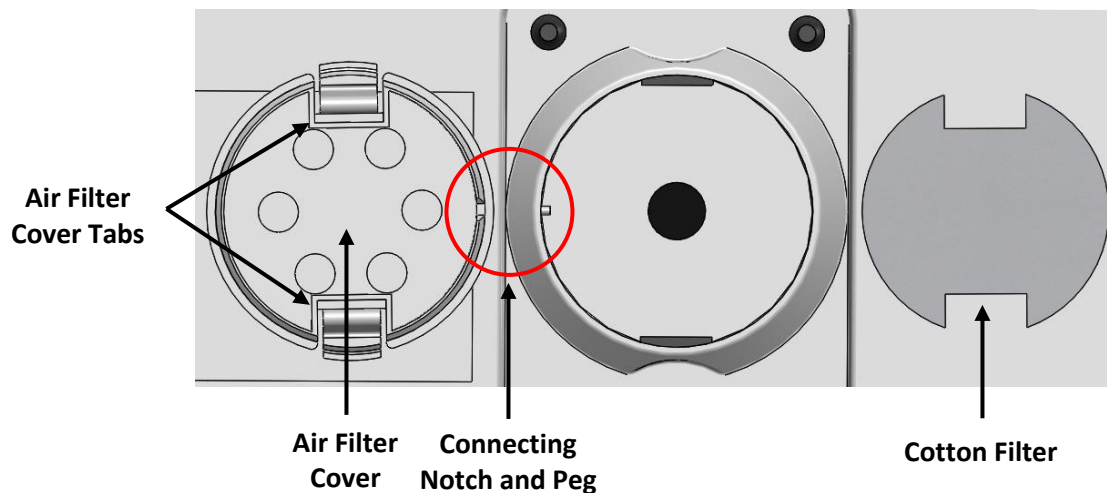

Fig: 4
1. The air filter is on the rear of the unit, press in both the air filter cover tabs together and lift the air filter cover from the casing. (Fig: 4)
2. Remove the cotton filter. (Fig: 4)
4. Place a new cotton filter into the air filter cover and place it back into the casing, ensuring that the notch in the air filter cover lines up with the peg in the casing. (Fig: 4)